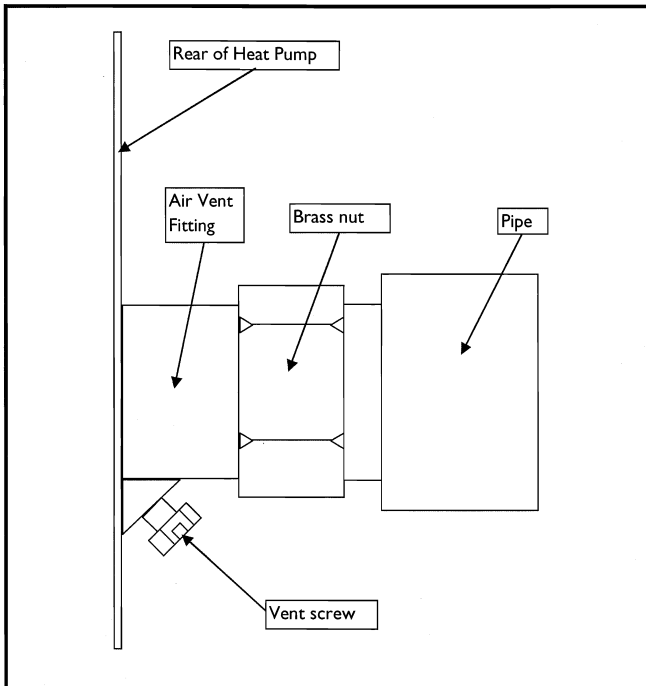
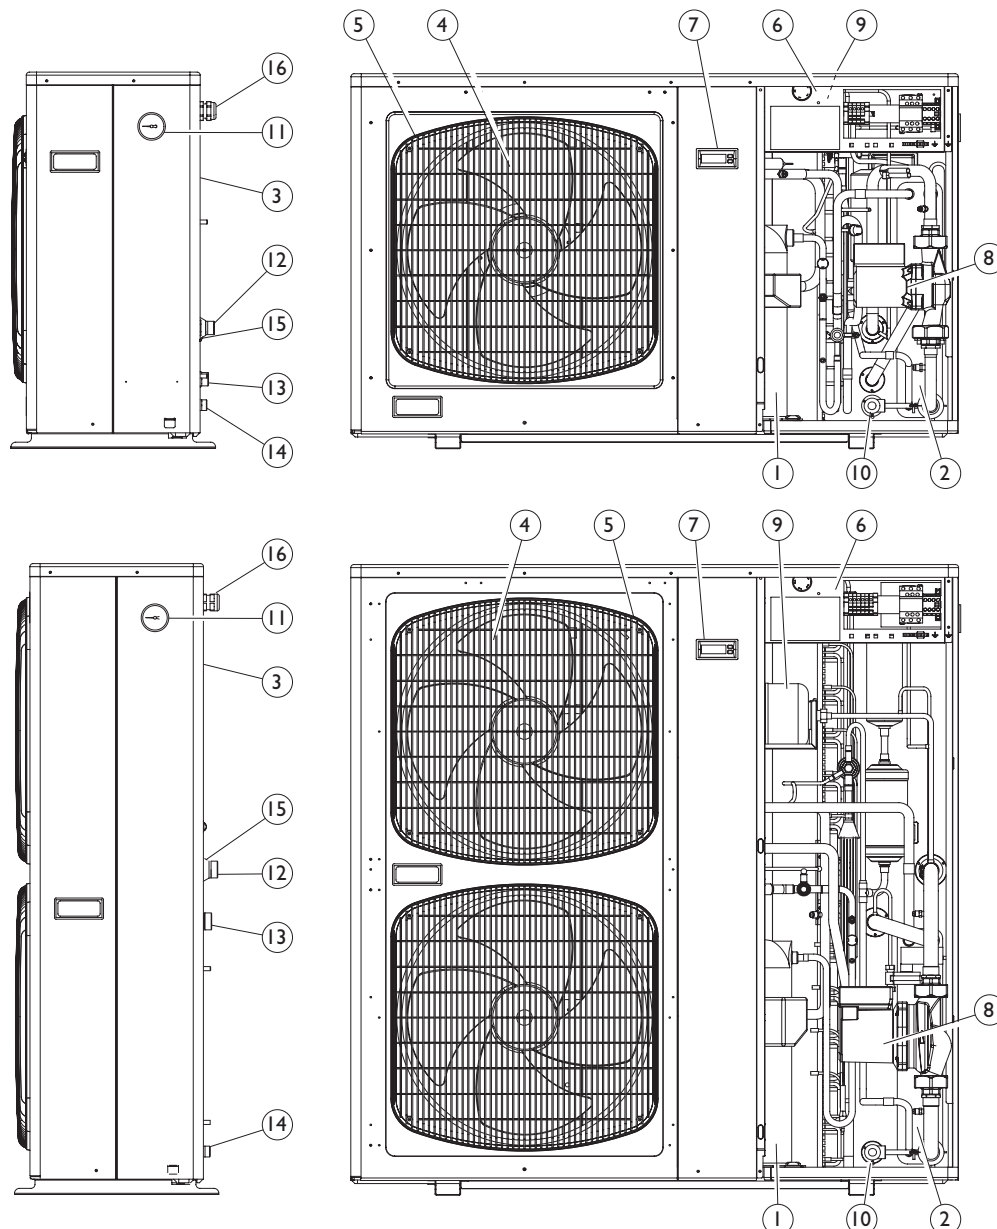

Fig. 6 Air vent - Rear of unit - Heat Pump Return Pipe
Fig. 7. Diagram of parts
2. Fill the system and Heat Pump with water and pressurise to 1.5bar. The pressure gauge can be read on the Heat Pump. See Fig 7.
11. Re-pressurise the system to 1.5bar and purge out any remaining air. Note: It is essential that all the air is removed from the system prior to starting the unit. **IMPORTANT:** Purge ALL the air using the bleed point on the return line (Fig 6) and circulation pump (Fig 7).
See Fig. 7 - Item 15